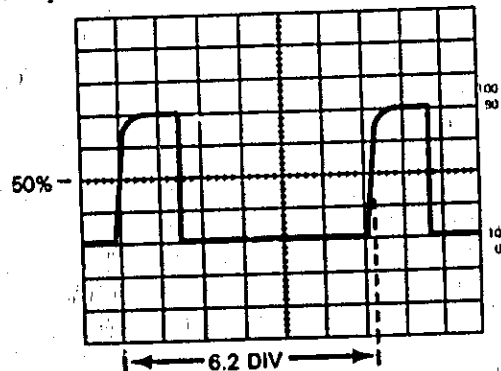

Figure 3-8. Time Interval Measurement Using Main Time Base
a. Apply signal to the channel A INPUT connector, and select channel A DISPLAY (18) and TRIGGER A (51).
b. Set input coupling as desired, and adjust VOLTS/DIV (49) for approximately four divisions of amplitude.
c. Select INT main trigger (55), and MAIN sweep (17).
d. Adjust the MAIN TIME/DIV (22) to display six to eight divisions between pulses, and adjust main TRIGGER LEVEL (19) for a stable display.
e. Using horizontal POSITION (7), place the 50% point of the first pulse on a convenient graticule line and count the number of divisions to the 50% point of the second pulse (figure 3-8).